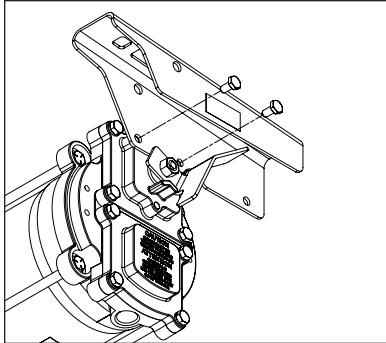

Figure 1
3. Insert the two 1/4"-20 x 1/2" bolts through the nozzle cover and thread into the switch coverplate. Torque bolts to 45-60 in/lb. (Figure 1).